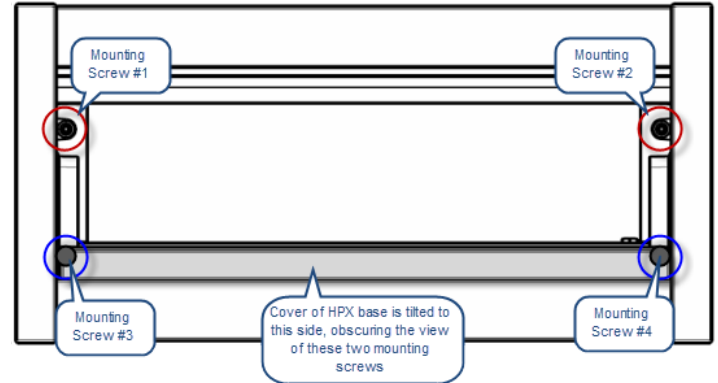
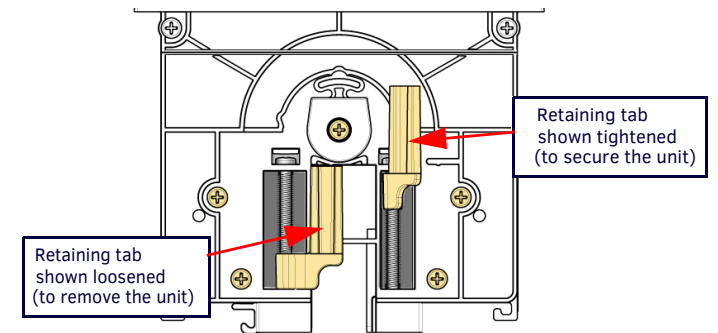

FIG. 8 HPX BASE ASSEMBLY (SHOWN MOUNTED) - MOUNTING SCREWS LOCATIONS
FIG. 9 HPX BASE ASSEMBLY (SHOWN MOUNTED) - MOUNTING SCREWS LOCATIONS
2. Tighten the four mounting screws (FIG. 8) located inside and at each end of the HPX base assembly, to rotate the retaining tabs (FIG. 9) into locking position under the mounting surface.
2. Loosen four mounting screws inside and at each end of the HPX base assembly (FIG. 8), in order to rotate the retaining tabs from under the mounting surface.
FIG. 9 provides a cutaway view of the End Cap, showing the retaining tabs highlighted in both the loose position and the tightened (secure) position.